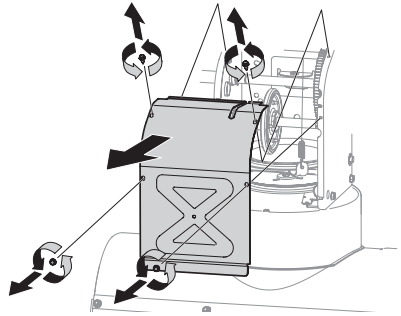
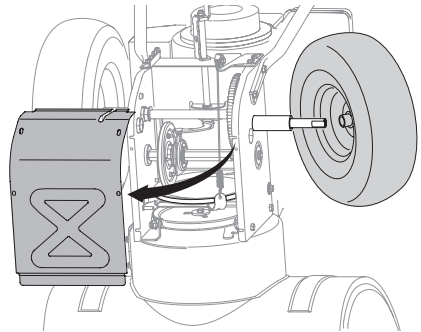

Figure 78
Figure 86
3. Remove frame cover from underside by removing self-tapping screws (Figure 78).
5. Remove frame cover from underside by removing self-tapping screws (a) (Figure 78).
3. Remove frame cover from underside by removing four self-tapping screws (Figure 78).
5. Using the four self tapping screws, reinstall the frame cover (Figure 78).
4. Remove frame cover from underside by removing self-tapping screws (Figure 78). Remove right-hand wheel by removing screw and bell washer which secure it to axle. See (Figure 86).